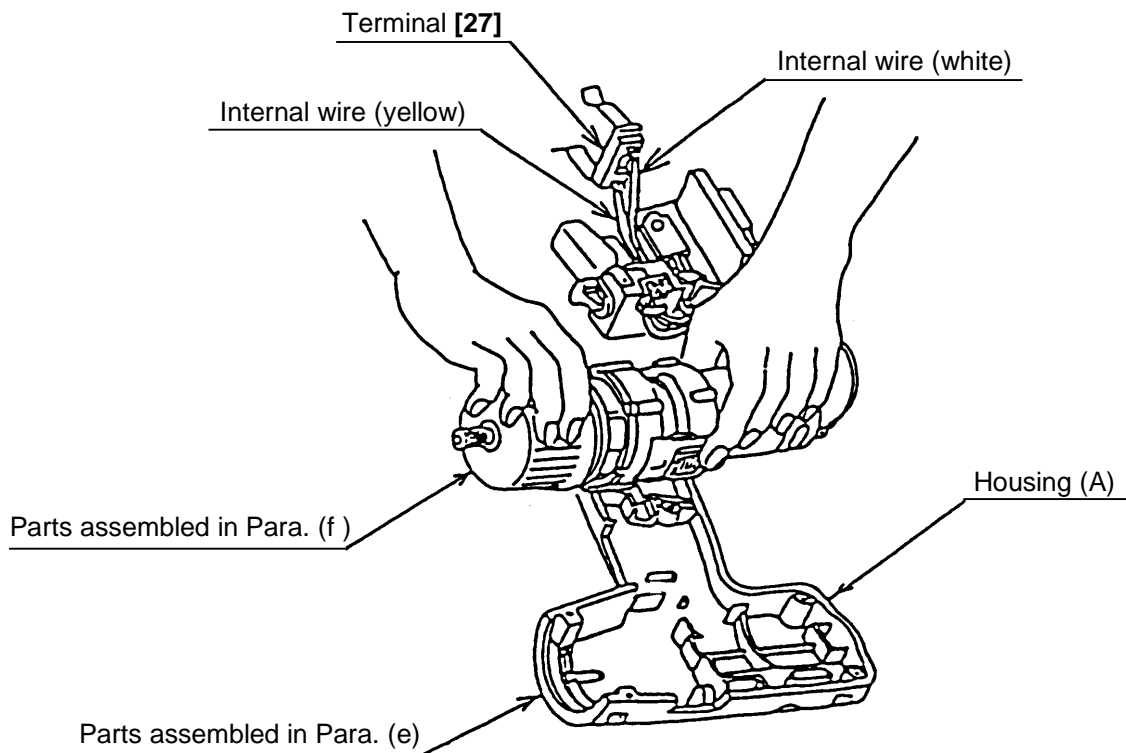

Fig. 16
(g) Mount the components assembled as described in Para. (f) onto the components assembled as described in Para. (e). At this time, ensure that colored leadwires soldered to the Terminal **[27]** are properly aligned with relation to housing (A) and housing, (B). (See Fig. 16)